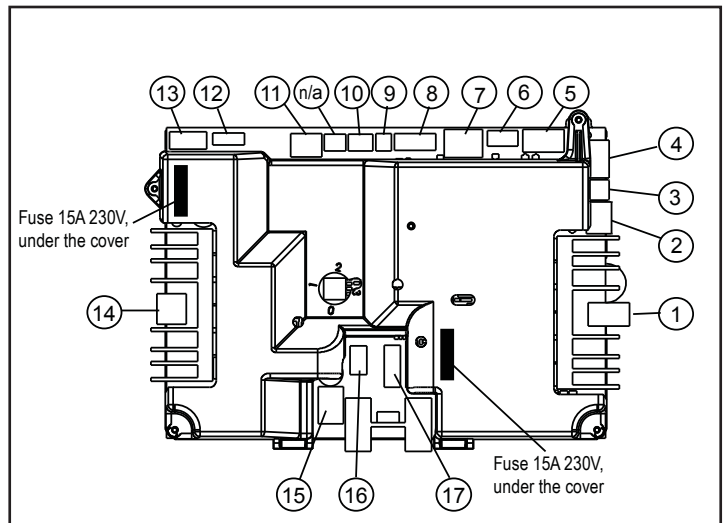

Figure 43.2 - Control Board
4. Disconnect the wire from the control board connection points #1 and #8. Depress the tab on the connector to disconnect the wire (similar to a telephone connector). **See Figure 43.2 on page 43** for the locations of #1 and #8.
5. Using an 11/32 socket or nut driver, loosen the (6) 8x32 nuts securing the motor and impeller to the housing. Rotate the blower and remove from housing.
See Figure 43.2 below.